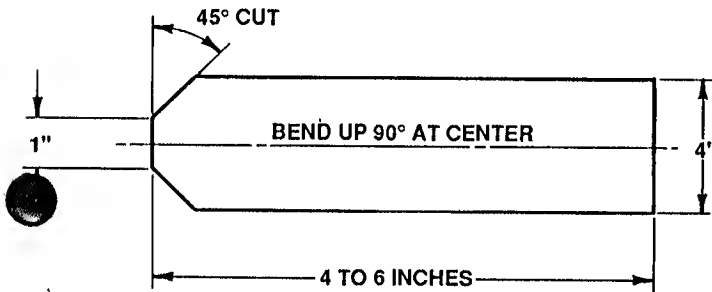

FIGURE 11
2. Fashion an oil drain trough from metal or cardboard as shown in Figure 11.